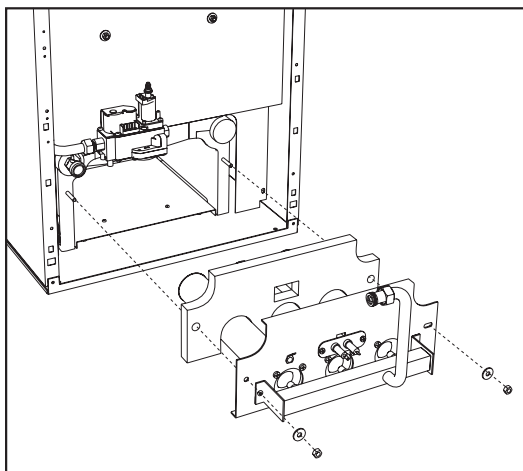

fig. 23 - Removing the burners
- Undo the two nuts fixing the combustion chamber door to the cast iron elements of the boiler (fig. 23)